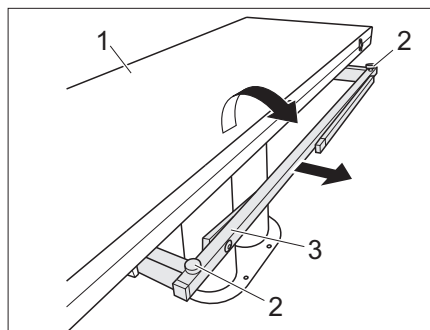

Fig. 58 Increasing the table size
- ▶ Pull out the table base (Fig. 58,3).
- ▶ Fold out the table half (Fig. 58,1).
- ▶ Use the two adjusting screws (Fig. 58,2) to adjust the table-top to the desired height.